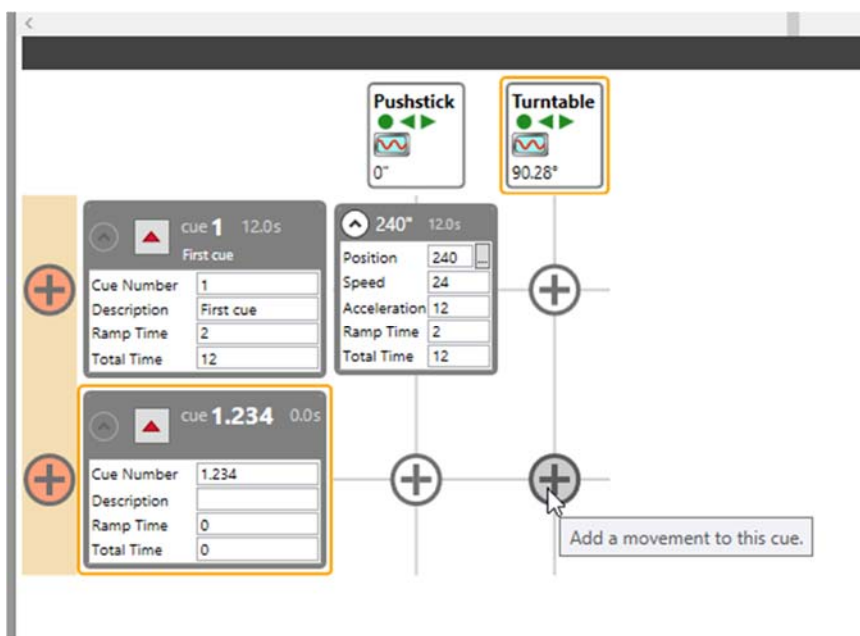
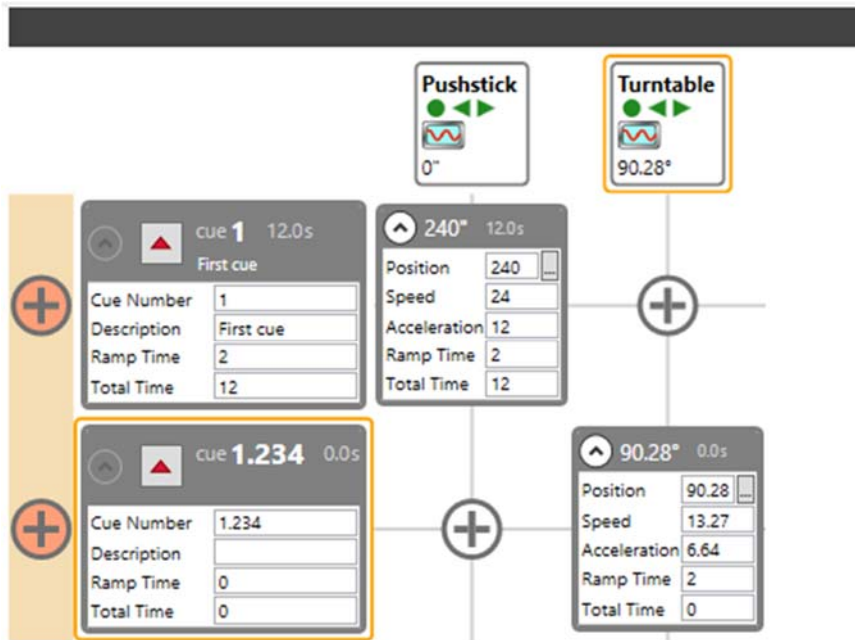

Figure 44
Figure 45
9. With the *Turntable* in a position we want to record, add a *Turntable* movement to *Cue 1.234* by clicking on the “+” button at the intersection of *Turntable* and *Cue 1.234* (Figure 44). Notice that Spikemark records the current position of the *Turntable* as the target position for the movement (Figure 45). This makes it easy to position all your scenery on stage manually, and then record the scene as a cue. You are free to tweak the **Position** anytime, but for now let’s just leave it.